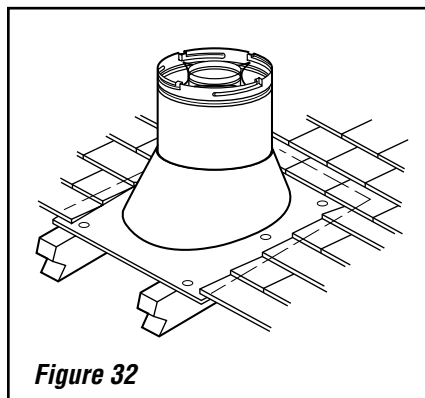

Figure 32
I. Install the roof flashing - Extend the vent sections through the roof structure. Install the roof flashing over the vent section and position such that the vent column rises vertically (use carpenter's level) (**Figure 32**). Nail along perimeter to secure flashing or adjust roofing to overlap the flashing edges at top and sides only and trim where necessary. Seal the top and both sides of the flashing with waterproof caulking.